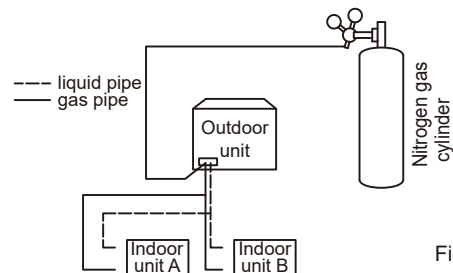

Fig.5.38
4. Use blind plugs to block all liquid (gas) side openings, except for the opening at the indoor unit which is furthest from the outdoor units ("Indoor unit A" in Fig.5.38).